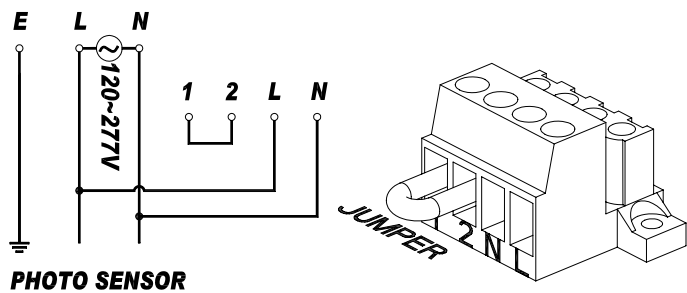

Figure 5
3. For an external switch: remove the jumper between terminals 1 and 2, connect the switch device between terminals 1 and 2, and slide the slide switch to the Wall Switch position (see Fig. 5 for wiring connections). The external switch connections must be fully isolated from any other circuitry.
- Figure 5: Wiring diagrams for wall switch